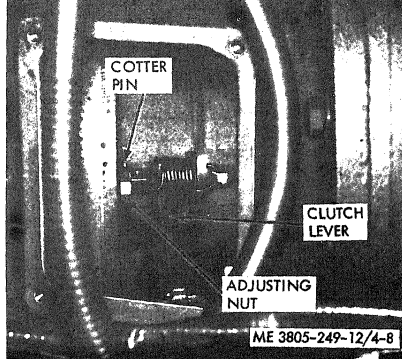

Figure 4-8. Flywheel clutch adjustment.
(1) Remove the side panel at the transmission filler plug. Remove four bolts securing the clutch housing inspection hole cover and remove the cover.
(2) Remove the cotter pins from the adjusting nuts and screws. Refer to figure 4-8.